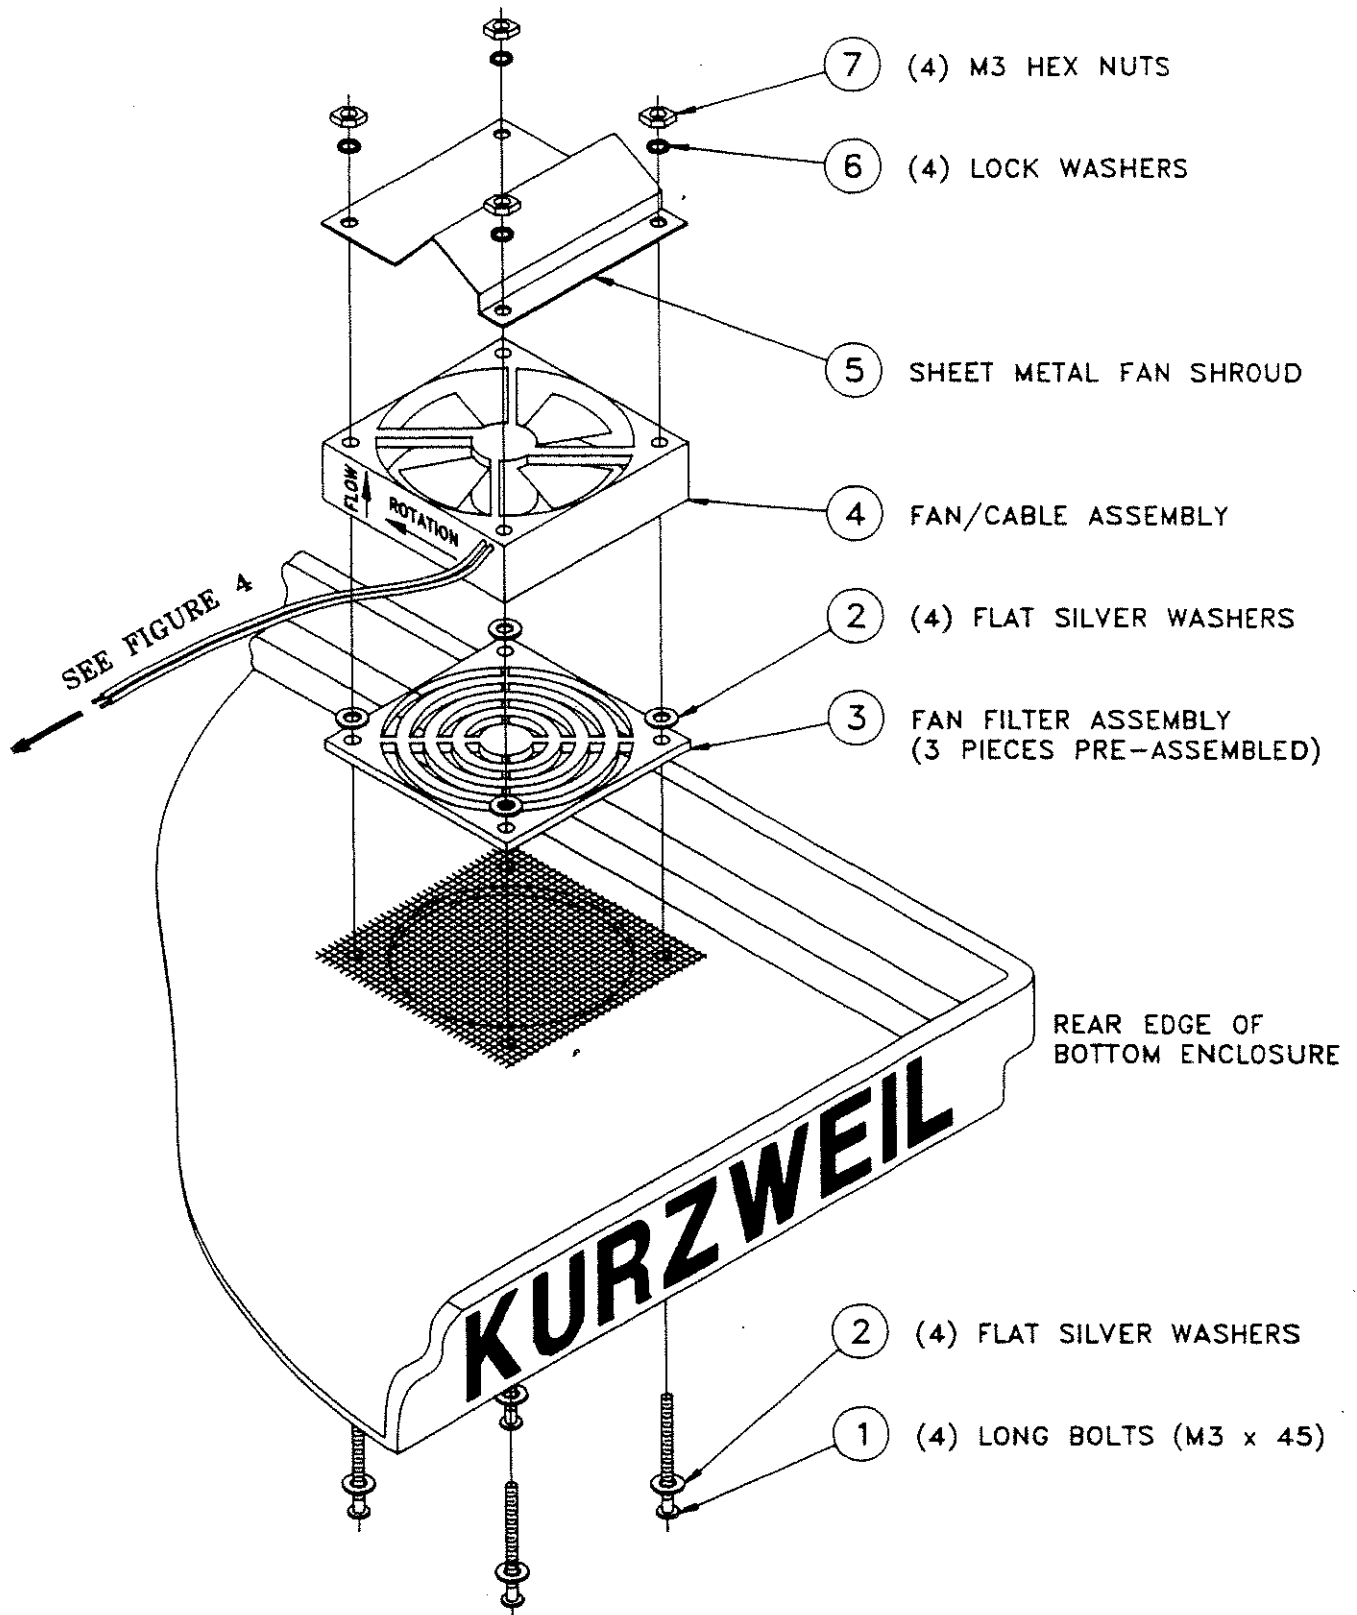
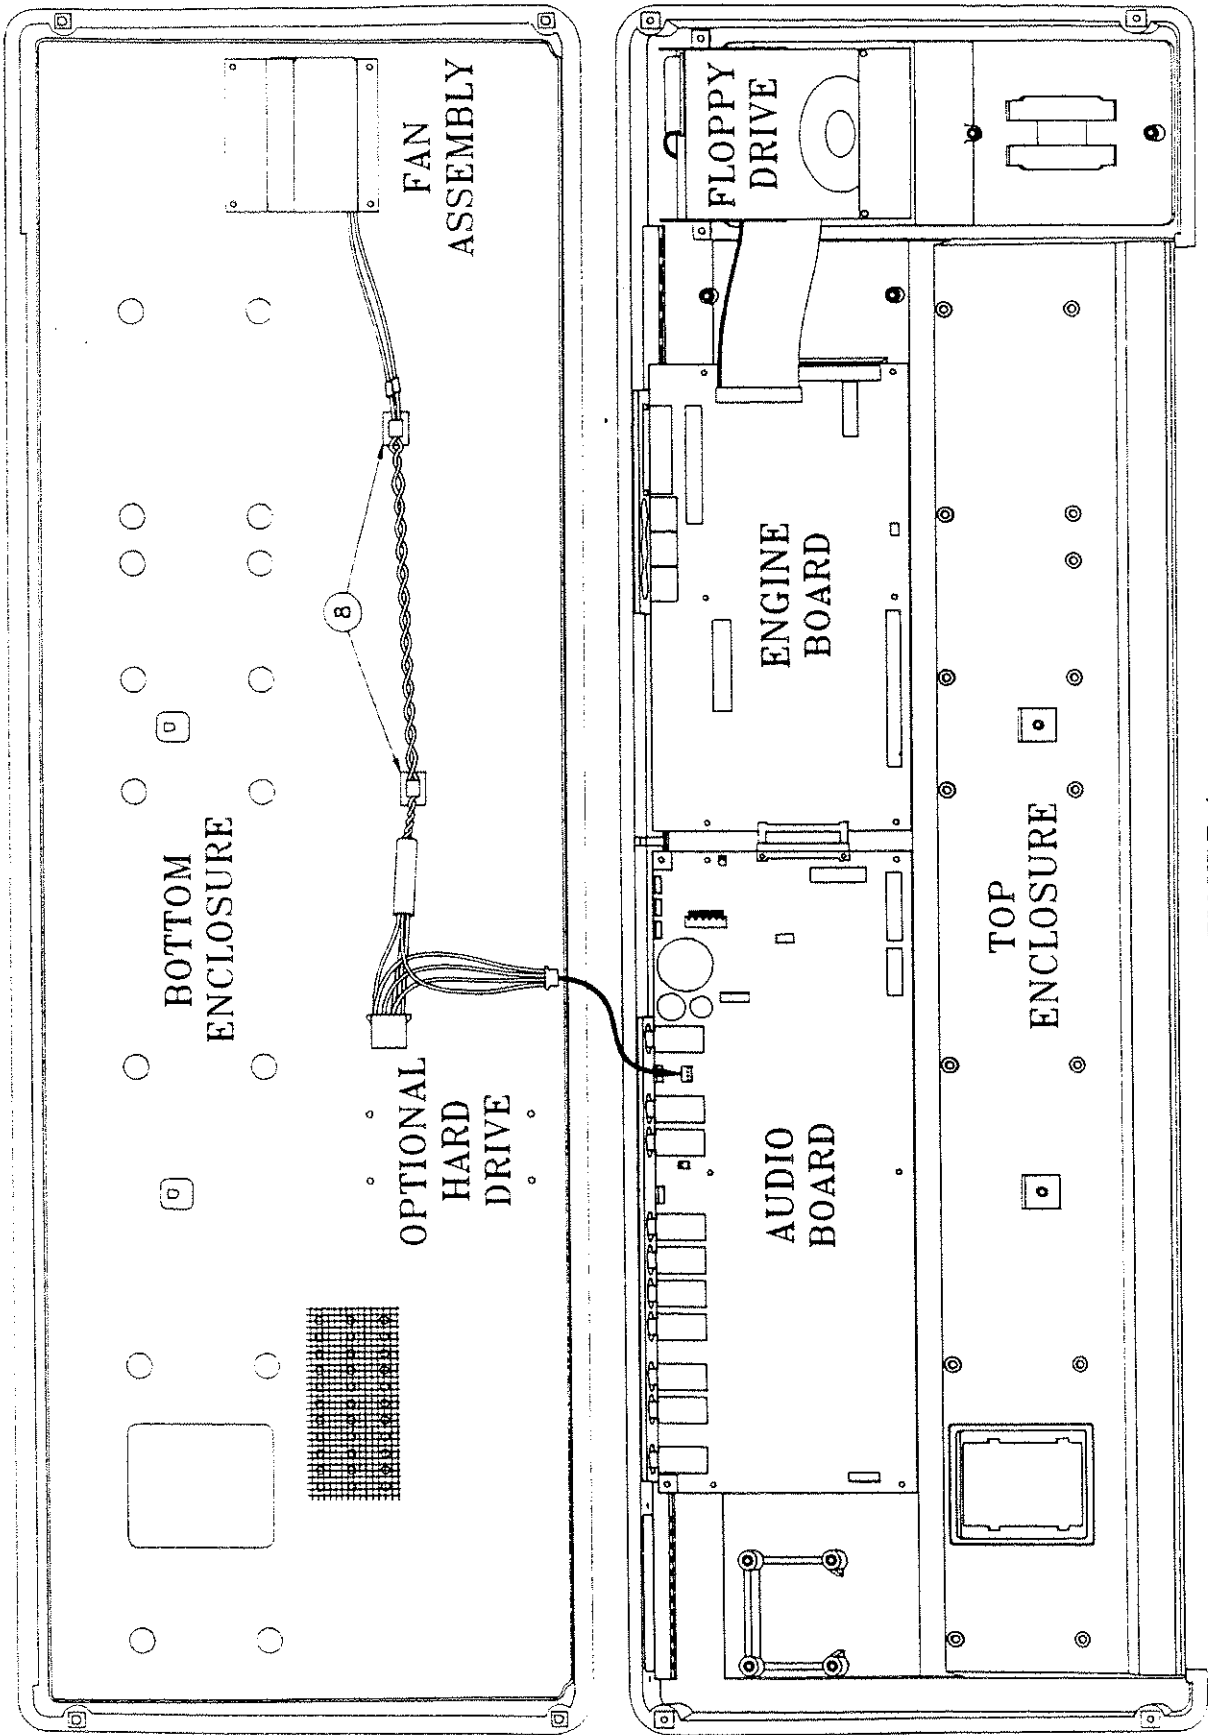

FIGURE 3
FIGURE 4
8. Locate the four long bolts (item 1) and four of the flat silver washers (item 2). Place a washer on each of the bolts, then insert them from the outside of the bottom enclosure through the fan vent screen. See figure 3.
9. Slide the fan filter (item 3) onto the four bolts so that it rests against the screen. Note that the fan filter has a removable panel that holds the foam mesh in place. Be sure to install the fan filter so the removable panel is facing down. This will keep the foam mesh positioned properly.
10. Take the remaining four flat silver washers (item 2) and place one on each of the bolts. Slide them down against the fan filter.
11. Slide the fan/cable assembly (item 4) onto the four bolts. Make sure that the flow indicator, rotation indicator, and fan/hard disk drive power cable are oriented correctly, as shown in figure 3. The flow indicator should be pointing up, the
12. Locate the sheet metal fan shroud (item 5). The fan shroud is a one-piece metal stamping with two fastening flanges and a raised center portion. Orient the fan shroud so the narrow flange faces toward you, and the wide flange faces away from you. The opening created by the raised portion should be to the left. At figure 3, slide the fan shroud onto the four bolts.
13. Put one lock washer (item 6) on each of the four bolts.
14. Place one hex nut (item 7) on each of the four bolts, and tighten them securely, using a #1 phillips screwdriver. **DO NOT OVER TIGHTEN, AS YOU CAN DAMAGE THE ENCLOSURE!**
15. Locate the two adhesive-backed side clips (item 8). Remove the paper backing from each clip, and fasten the clips to the bottom enclosure, locating them approximately as shown in figure 4. Be sure that the openings in the clips face either toward or away from you (not to the left or right). These clips cannot be repositioned once they are in place; the adhesive is very strong. (Note that in figure 4, the top and bottom enclosures are oriented as they will be when you complete step 17).
16. Secure the fan/hard disk drive power cable in the side clips as shown in figure 4.
18. Take the smaller four-pin keyed connector for the fan/hard disk drive power cable and plug it into the connector on the audio board, as shown in figure 4.